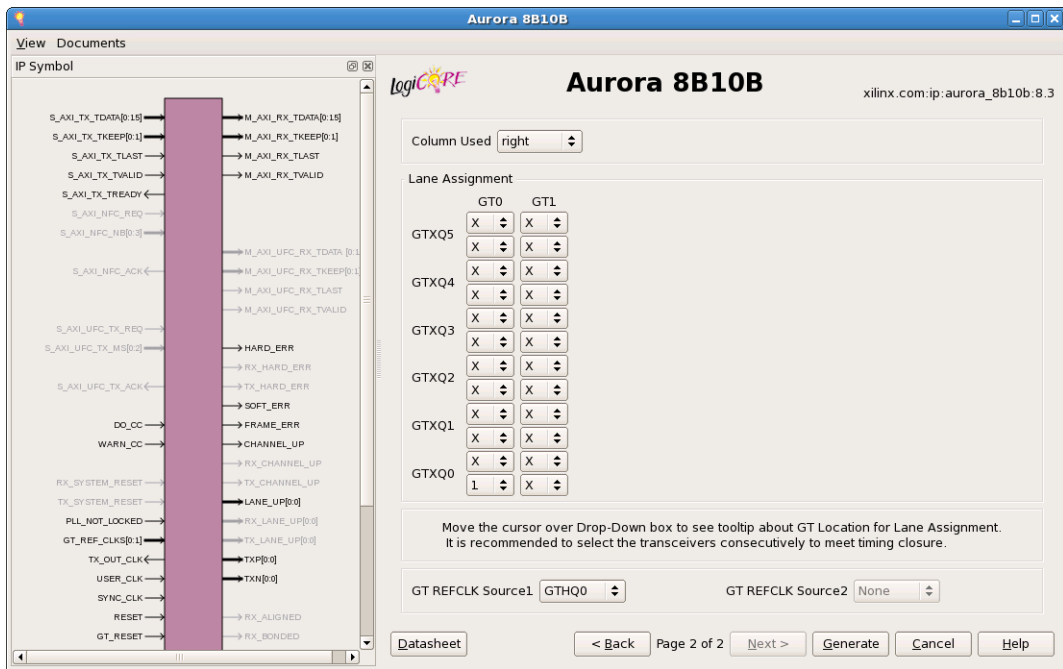
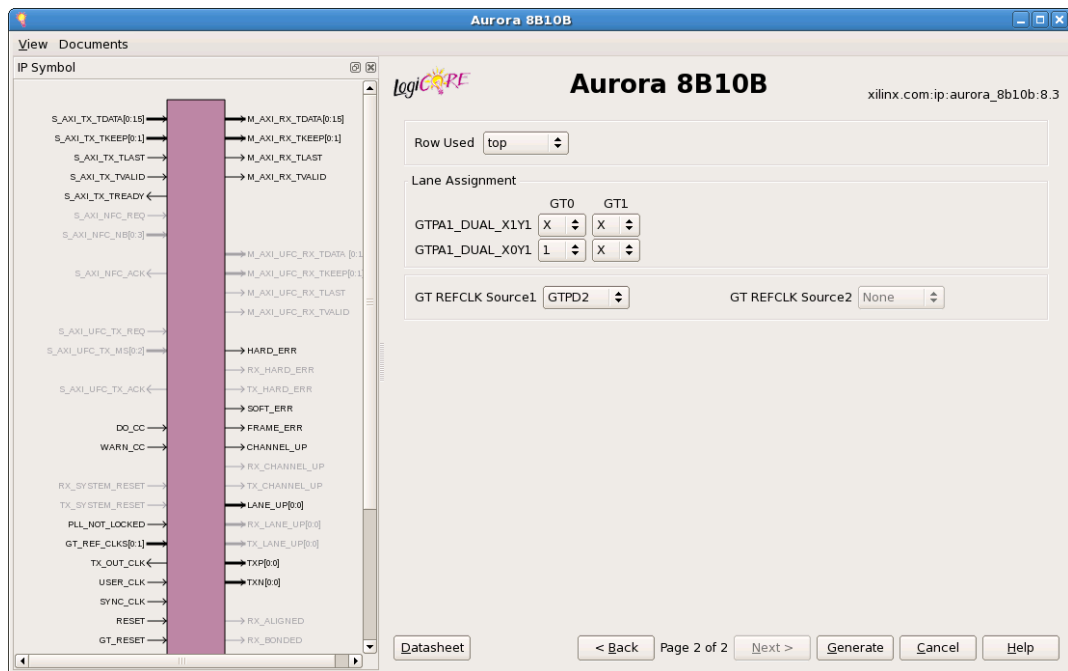

Figure 8-2: Second GUI Page for Virtex-7, Kintex-7, and Virtex-6 Device GTX Transceivers
Figure 8-4: Second GUI Page for Spartan-6 FPGA GTP Transceivers
- Figure 8-2, page 94 for Virtex®-7/Kintex™-7/Artix™-7, and Virtex-6 FPGA GTX transceivers
- Figure 8-4, page 95 for Spartan®-6 FPGA GTP transceivers
See the diagram in the information area in Figure 8-2 and Figure 8-4. Each row represents a GTPA1_DUAL tile in Spartan-6 FPGAs or two columns represent a Quad in Virtex-7, Kintex-7, Artix-7, and Virtex-6 FPGAs. Each active box represents an available GTP/GTX/GTH transceiver.